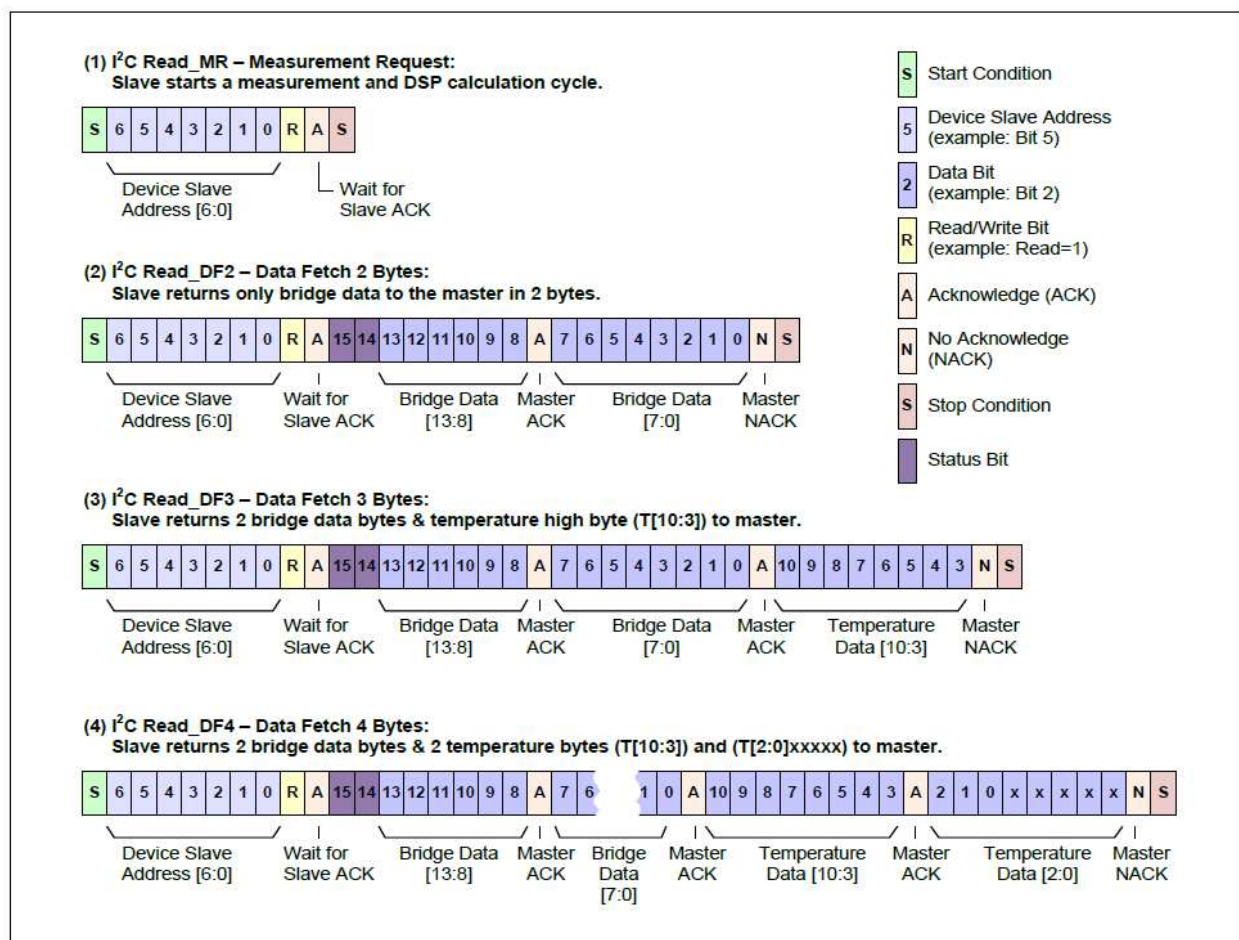

Figure 3-7: Read Measurement Request Bitmap
The Read_MR (see example 1 in Figure 3-7) communication contains only the slave address and the READ bit (1) sent by the master. After the ZSC31014 responds with the slave ACK, the master must create a stop condition. This is only used in Sleep Mode (see section 3.1.2) to wake up the device and start a complete measurement cycle (including the special measurements) followed by the DSP calculations and writing the results to the digital output register. The I²C Read_MR function can also be accomplished using the I²C Read_DF2 or Read_DF3 command and ignoring the “stale” data that will be returned.
For Data Fetch commands, the number of data bytes returned by the sensor is determined by when the master sends the NACK and stop condition. For the Read_DF3 data fetch command (Data Fetch 3 Bytes; see example 3 in Figure 3-7), the 8MPP2 returns three bytes in response to the master sending the slave address and the READ bit (1): two bytes of bridge data with the two status bits as the MSBs and then 1 byte of temperature data (8-bit accuracy). After
The Read_DF2 command is used if corrected temperature is not required. The master terminates the READ operation after the two bytes of bridge data (see example 2 in Figure 3-7).
Every Data Fetch Measurement Packet contains two status bits in the MSBs of the first byte, see Figure 3-7. These bits are used to determine the status of the data being fetched.